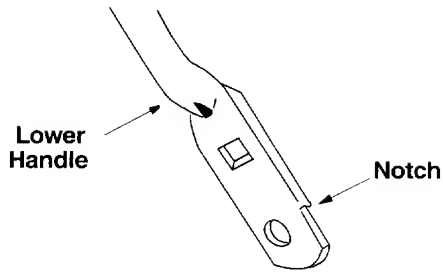

Figure 11
- Turn the lower handle around so the notches on the bottom of the lower handle are facing forward as shown in Figure 11. Reassemble, placing the bottom holes in the handle over the weld pins in the handle mounting bracket.